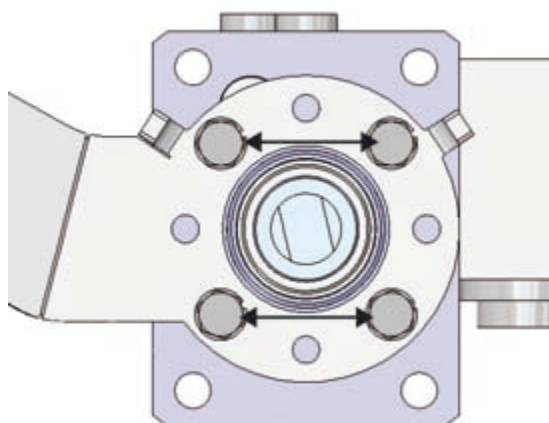

Figure 40. Support plate fastening screws
3. Open the fastening screws (four in total, figure 40) that attach the support plate to the cylinder.